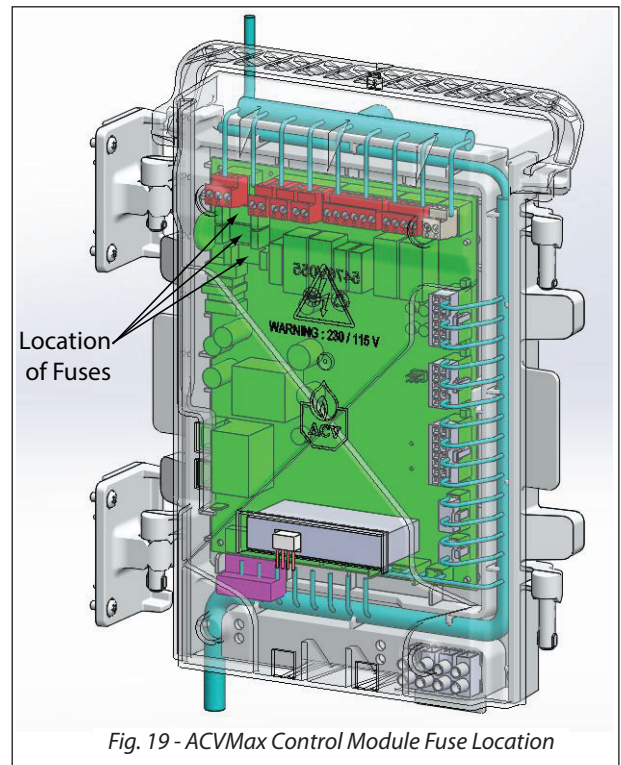

Fig. 19 - ACVMax Control Module Fuse Location
- The ACVMax control module contains 3 internal replaceable 5A fuses as shown in *Figure 19 below*.